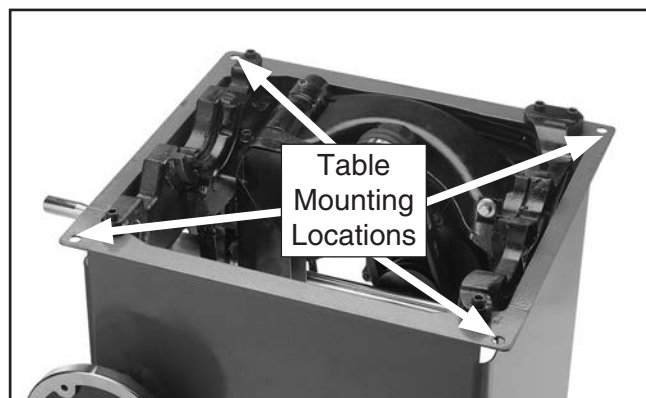

Figure 113. Table mounting bolt holes (table top removed for clarity).
7. To adjust table, loosen (4) bolts in table mounting locations (see **Figure 113**) and lightly tap table in direction needed to square table to blade. Repeat **Steps 3–6** until blade and miter slot are parallel. Do not forget to tighten table mounting bolts when finished.
2. Loosen four table mounting bolts (**Page 68, Figure 113**) and adjust table until blade does not contact insert. Tighten all mounting bolts.